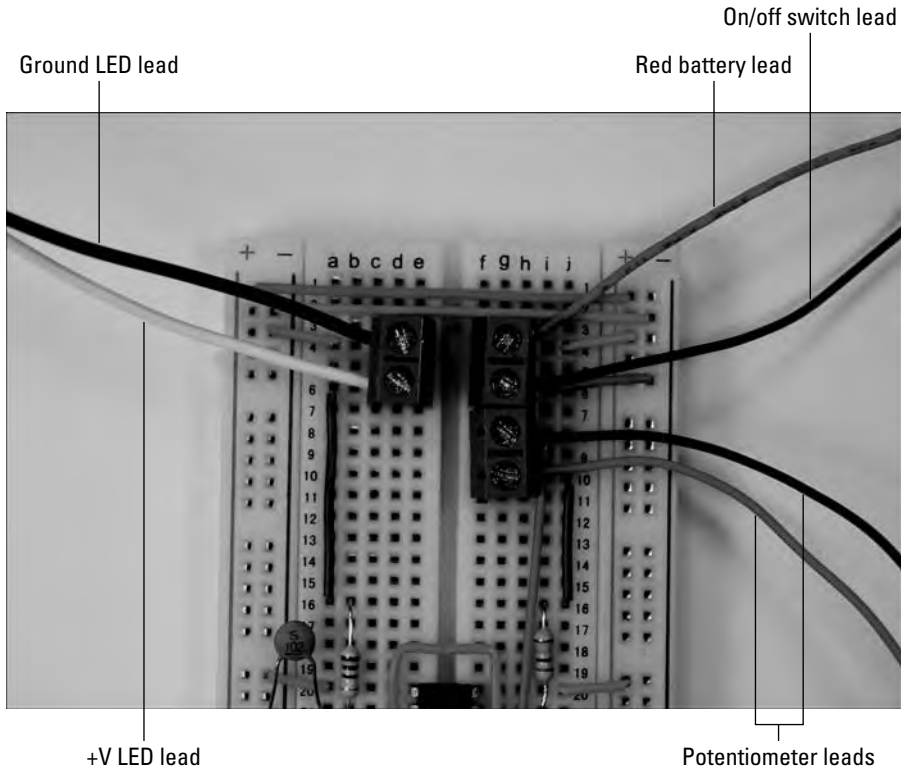

Figure 9-14:
10. Attach wires from the LED, battery pack snap, on/off switch, and potentiometer to the terminal blocks, as shown in Figure 9-14.